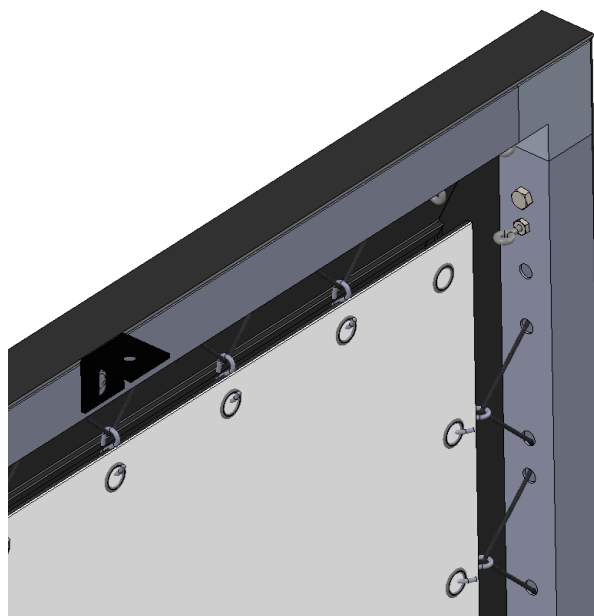

Figure 10: Installing Frame/Screen Assembly - Rear View, Close Up
4. Install the frame/screen assembly in the aperture using the attached mounting brackets and appropriate fasteners (see Figure 10).